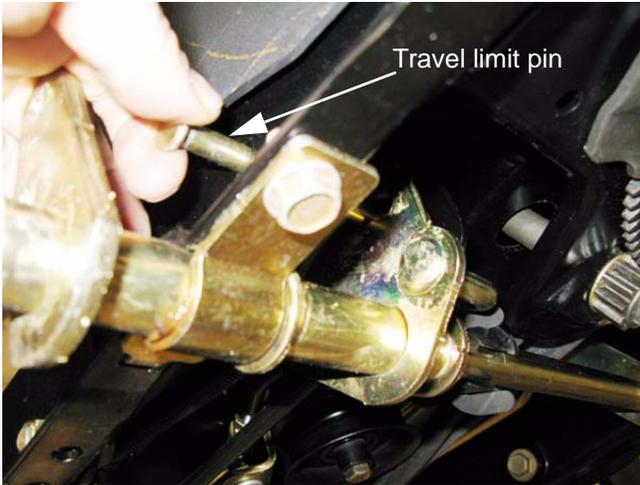

Figure 6.22
5. Withdraw the travel limit pin. See Figure 6.22.